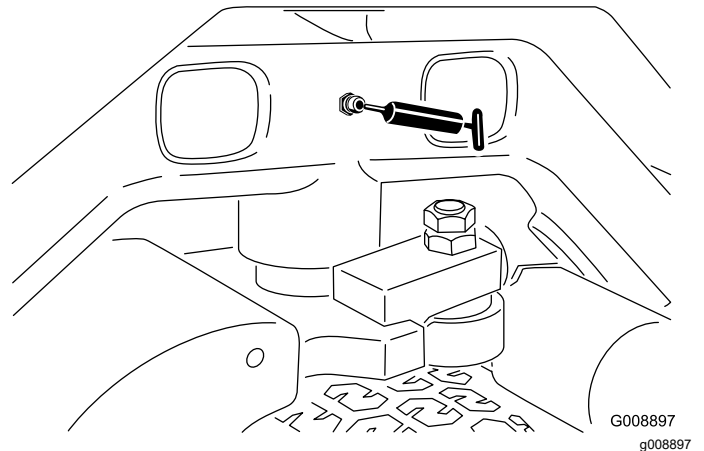

Figure 40
- Pivot de direction (Figure 40)